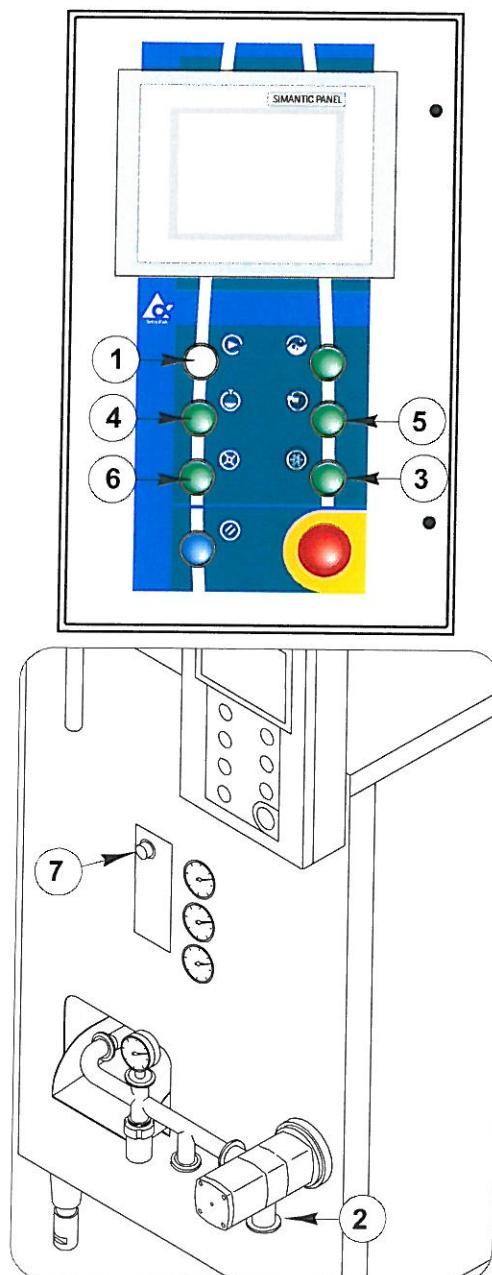

Fig. 6.3
- b. Start the pump by pressing the button (*Pos. 4, Fig. 6.3*).
- e. Start the dasher by pressing the button (*Pos. 6, Fig. 6.3*).
- f. Start the refrigerator compressor by pressing the button (*Pos. 3, Fig. 6.3*).
- g. Operate the overrun by pressing the button (*Pos. 5, Fig. 6.3*) and set the desired value by using the touch screen.
- i. Adjust the ice-cream pressure inside the cylinder by means of the regulator (*Pos. 7, Fig. 6.3*) that operates the pneumatic valve positioned above the cylinder.
- check the correct adjustment of the regulator (*Pos. 3, Fig. 6.3*) with the manometer (*Pos. 3, Fig. 6.2*);